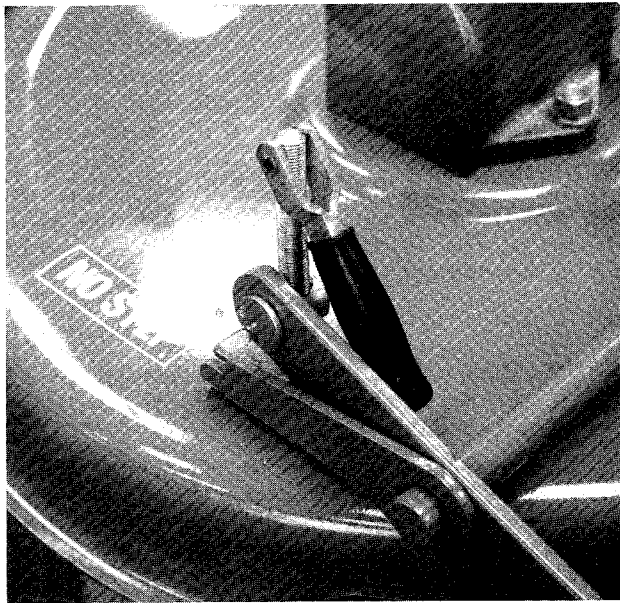

FIGURE 11. ADJUSTMENT LOCKED
j. Cutting Height. Turn the cutting height arm, located on the L.H. side of the cutting deck, clockwise to lower the cutting height. The height of cut can be adjusted from $\frac{5}{8}$ " to $2\frac{5}{8}$ ". See figure 10. To prevent the cutting height arm from unscrewing, lock it as shown in figure 11.